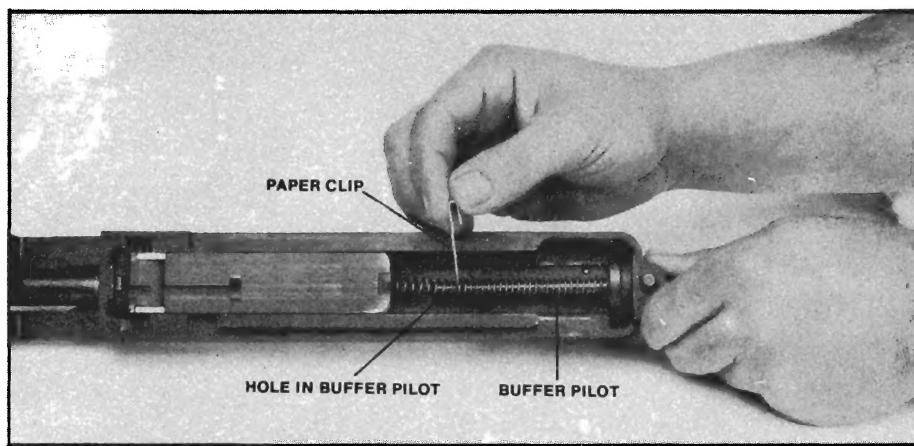

Fig. 4. Using paper clip to hold compressed spring on buffer pilot.
- NOTE:** If the fire control lever (45) is not in the **FULL-AUTO** position, damage to rocker (44) and bolt (4) may result.
3. With gun still upside down, disassemble upper receiver (37) by pulling bolt (4) to the rear about two inches and inserting a paper clip into the small hole in buffer pilot (5). (see fig. 4)